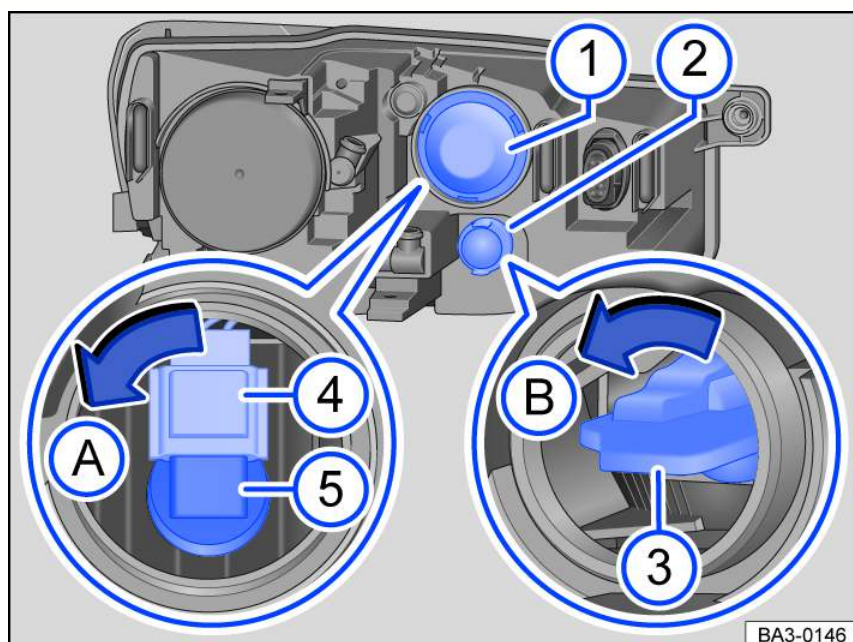

Fig. 128 In the engine compartment: Rear view of the left-side headlight.
3. Remove the rubber cover fig. 128  on the rear side of the headlight.
4. Turn the bulb for the high beam headlight fig. 128  in the direction of the arrow (arrow  and remove it from the headlight. Then release plug connector fig. 128  and remove.
6. Connect the connector fig. 128  to the bulb for the high beam headlight fig. 128 , ensuring that it audibly locks into place. Then insert the bulb for the high beam headlight fig. 128  into the headlight and turn it in the opposite direction of the arrow (arrow  as far as it will go.
7. Fit the rubber cover fig. 128  on the rear side of the headlight.
4. Turn the bulb holder fig. 128  in the direction of the arrow (arrow  and remove it from the headlight.
6. Insert the bulb holder fig. 128  into the headlight and turn it in the opposite direction of the arrow (arrow  as far as it will go.